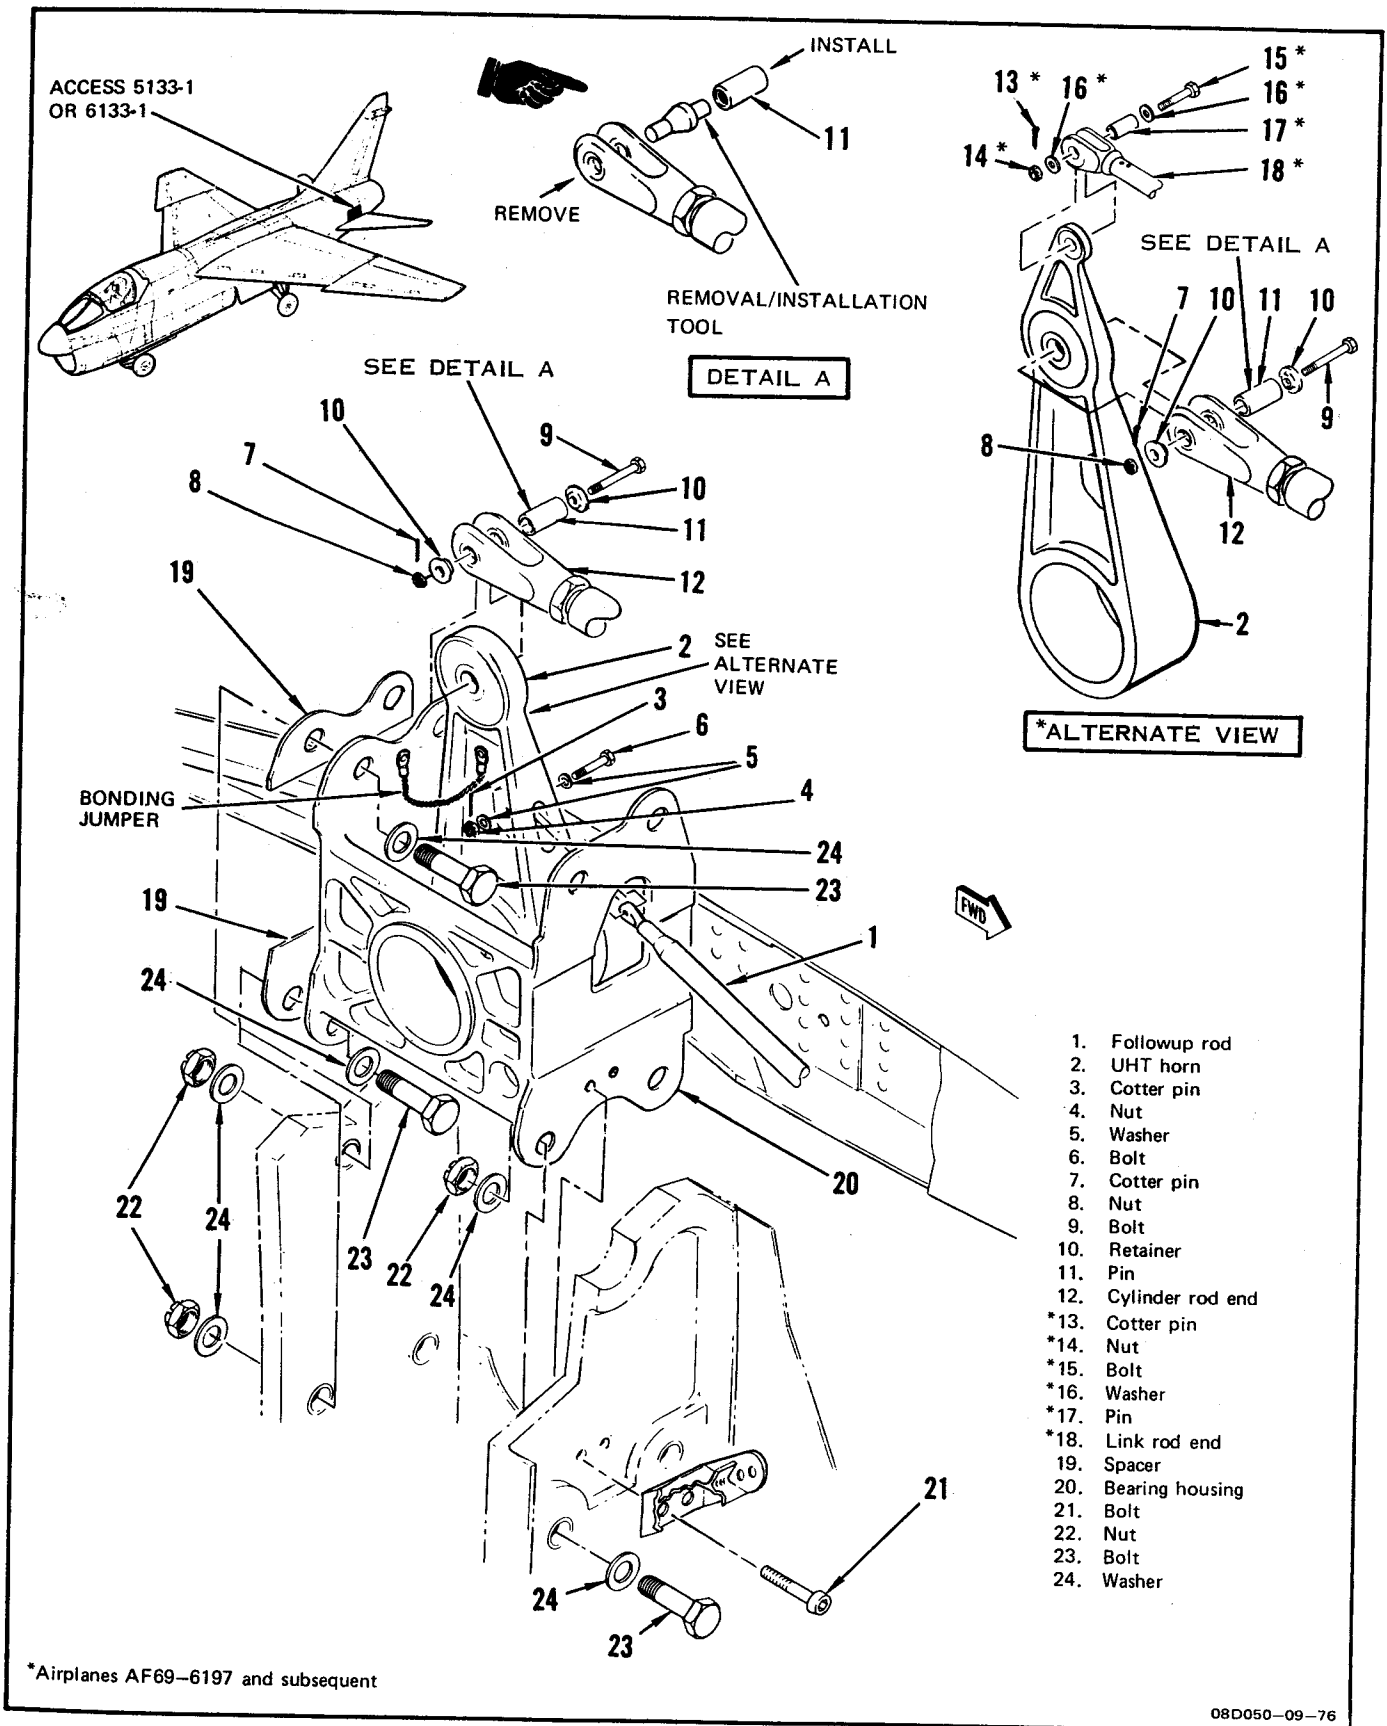

Figure 6-18. UHT Assembly Removal and Installation
Installation of link (18, figure 6-18) can result in damage to link during cylinder bleeding.
g. On airplanes AF69-6197 and subsequent, remove self-retaining bolt (19) (paragraph 2-95) and disengage load limiting link (20) from package input arm. Disconnect link (18, figure 6-18)
6-92. REMOVAL. (See figure 6-18.)
6-93. INSTALLATION. (See figure 6-18.)